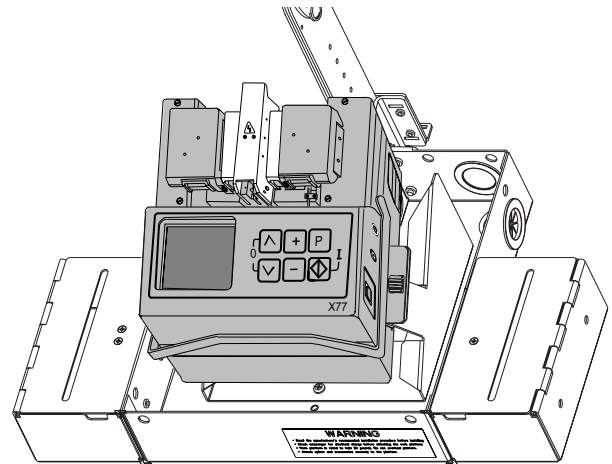

Figure 19
6.4 Place the splicer in the platform. Align the mounting bracket's plastic latches with the square holes in the platform mounting bracket (Figure 19).